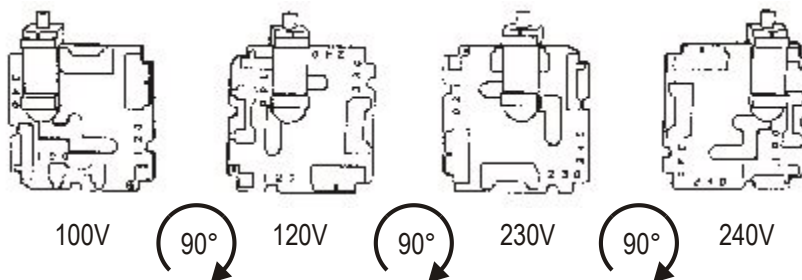

Figure 5. Voltage selector card positions.
- Orient the selector card so that the desired input voltage is readable at the bottom, shown in Figure 5. Then move the indicator pin to